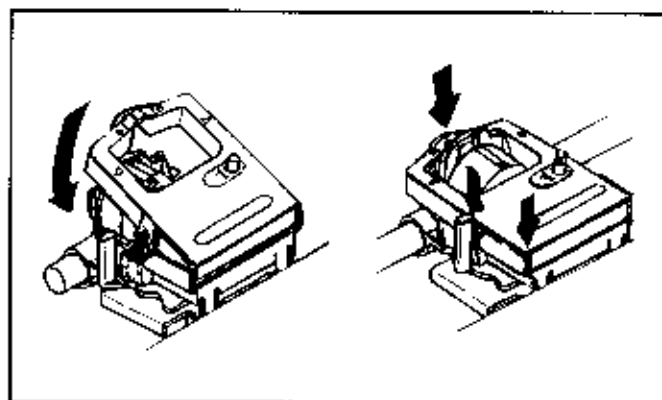

Figure 6-8
2. Lower the ribbon shield over the printhead, aligning the tabs with the inserts on the printhead plate (see Figure 6-8).